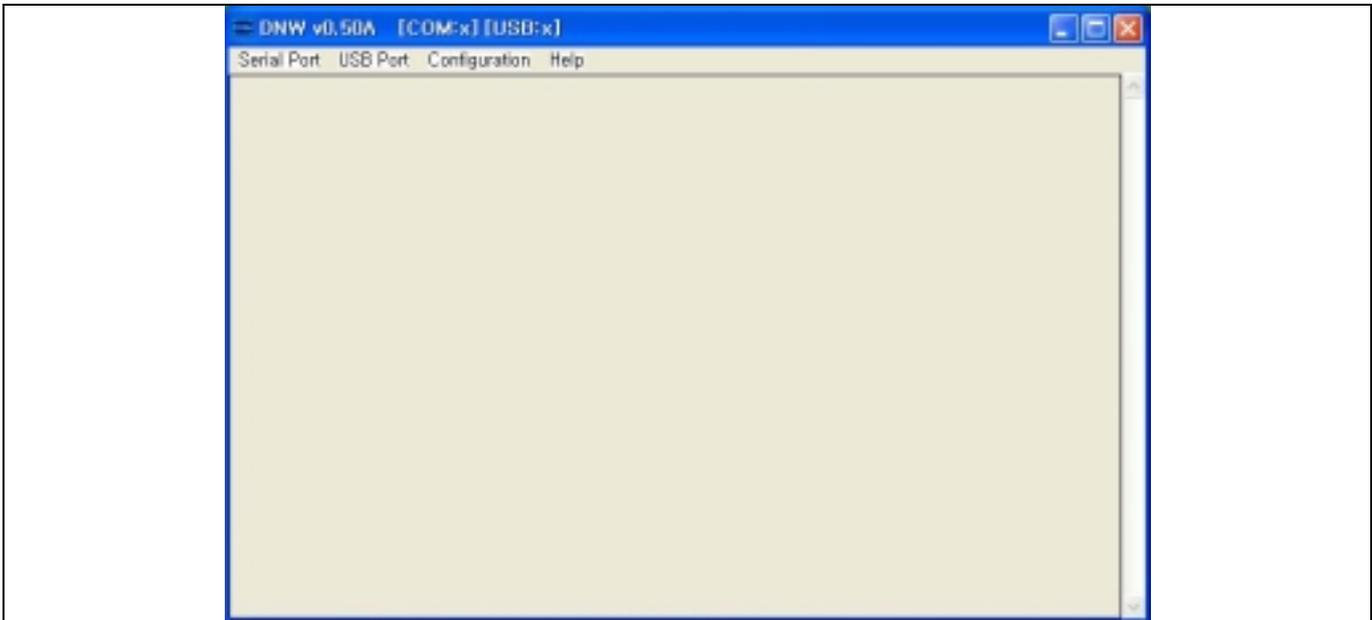

Figure 3-1. DNW Window to Download
1. Run the DNW utility program (See Figure 3-1).